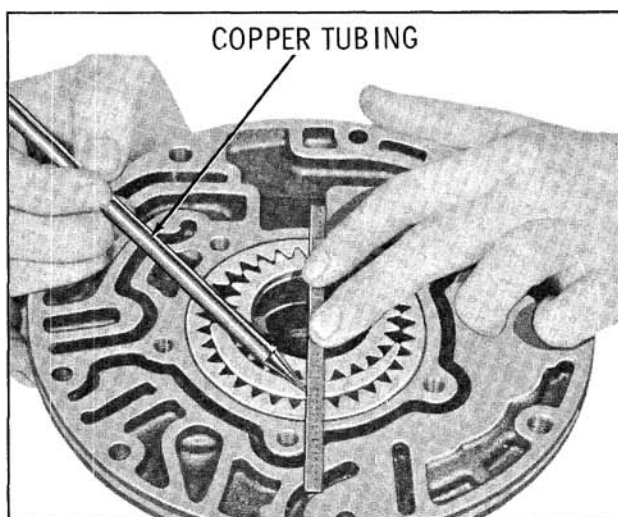

Fig. 6-410 Marking Oil Pump Gears
5. Mark, but do not scar, gear faces so gears can be reassembled in same manner. (Fig. 6-410)